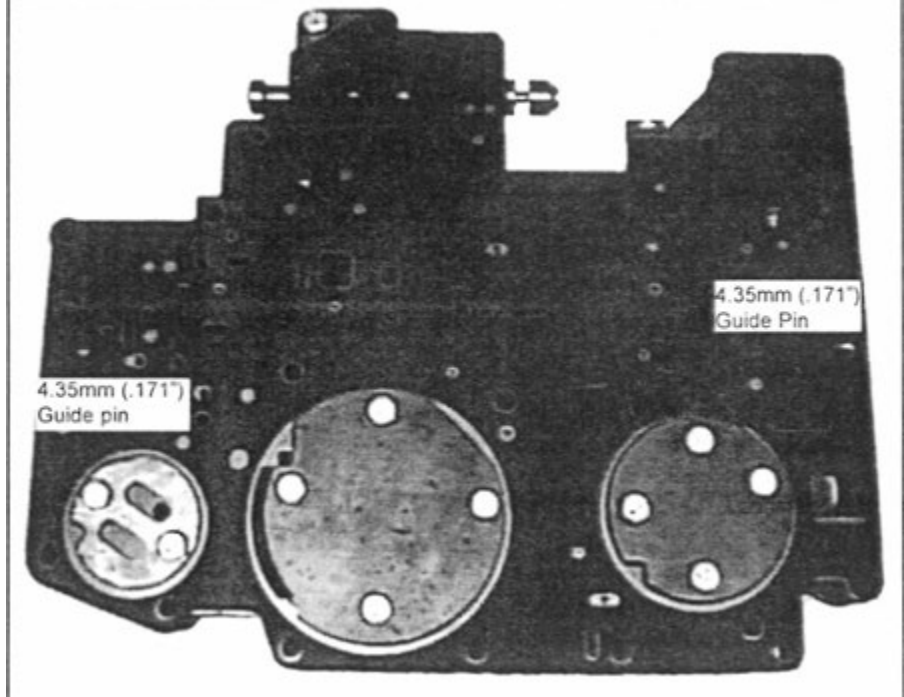
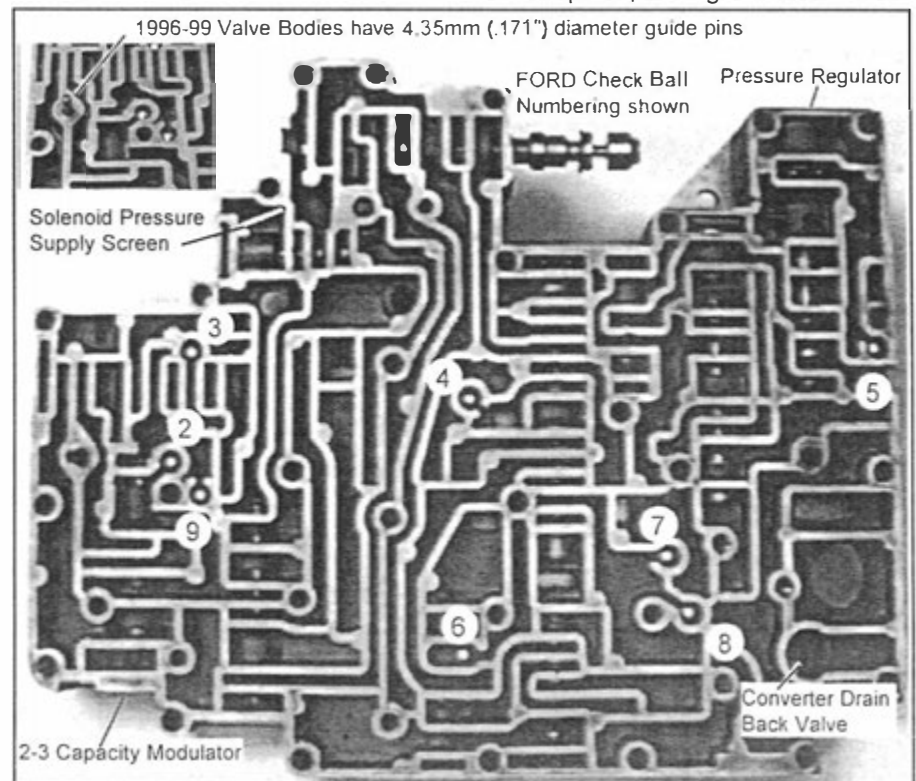

Figure 3. '96-'99 (TYPE B) Valve Body & Cover Plates
Figure 9. 1996-1999 Check Ball Placement (TYPE B Valve Body)
valve body on a clean surface with the separator plate side facing up. Make a note of the orientation of the three round reinforcement plates (See Fig. 3). Remove the eleven (11) 8mm hex head bolts holding the three (3) round reinforcing plates and separator plate to the valve body. Carefully lift the separator plate and gaskets off the valve body. Remove Check Balls, Solenoid Pressure Supply Screen and Converter Drain Back Valve (See Fig. 9). Remove all of the old separator plate gasket material from the case, valve body and separator plate surfaces. Rinse parts with solvent.
Step 12. Install all 8 Check Balls, Solenoid Pressure Supply Screen and Converter Drain Back Valve into valve body (See Fig. 9). Make sure the two (2) guide pin bolts are installed in the valve body. Next, place the separator plate with gaskets on the valve body and install the three (3) circular reinforcement plates and eleven (11) 8mm hex head bolts. Torque the bolts to 9-11 Nm (80-100 lb*in).